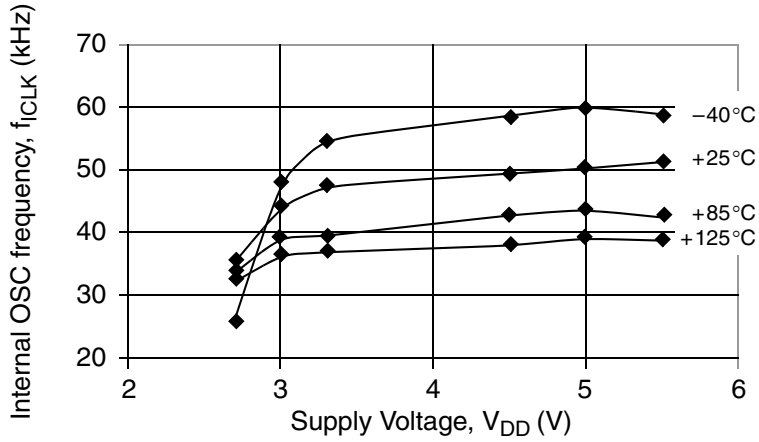

Figure 17-5. Internal Oscillator Frequency
- Typical value reflect average measurements at midpoint of voltage range, 25 °C only. See Figure 17-5 for plot.
1. Typical value reflect average measurements at midpoint of voltage range, 25 °C only. See Figure 17-5 for plot.